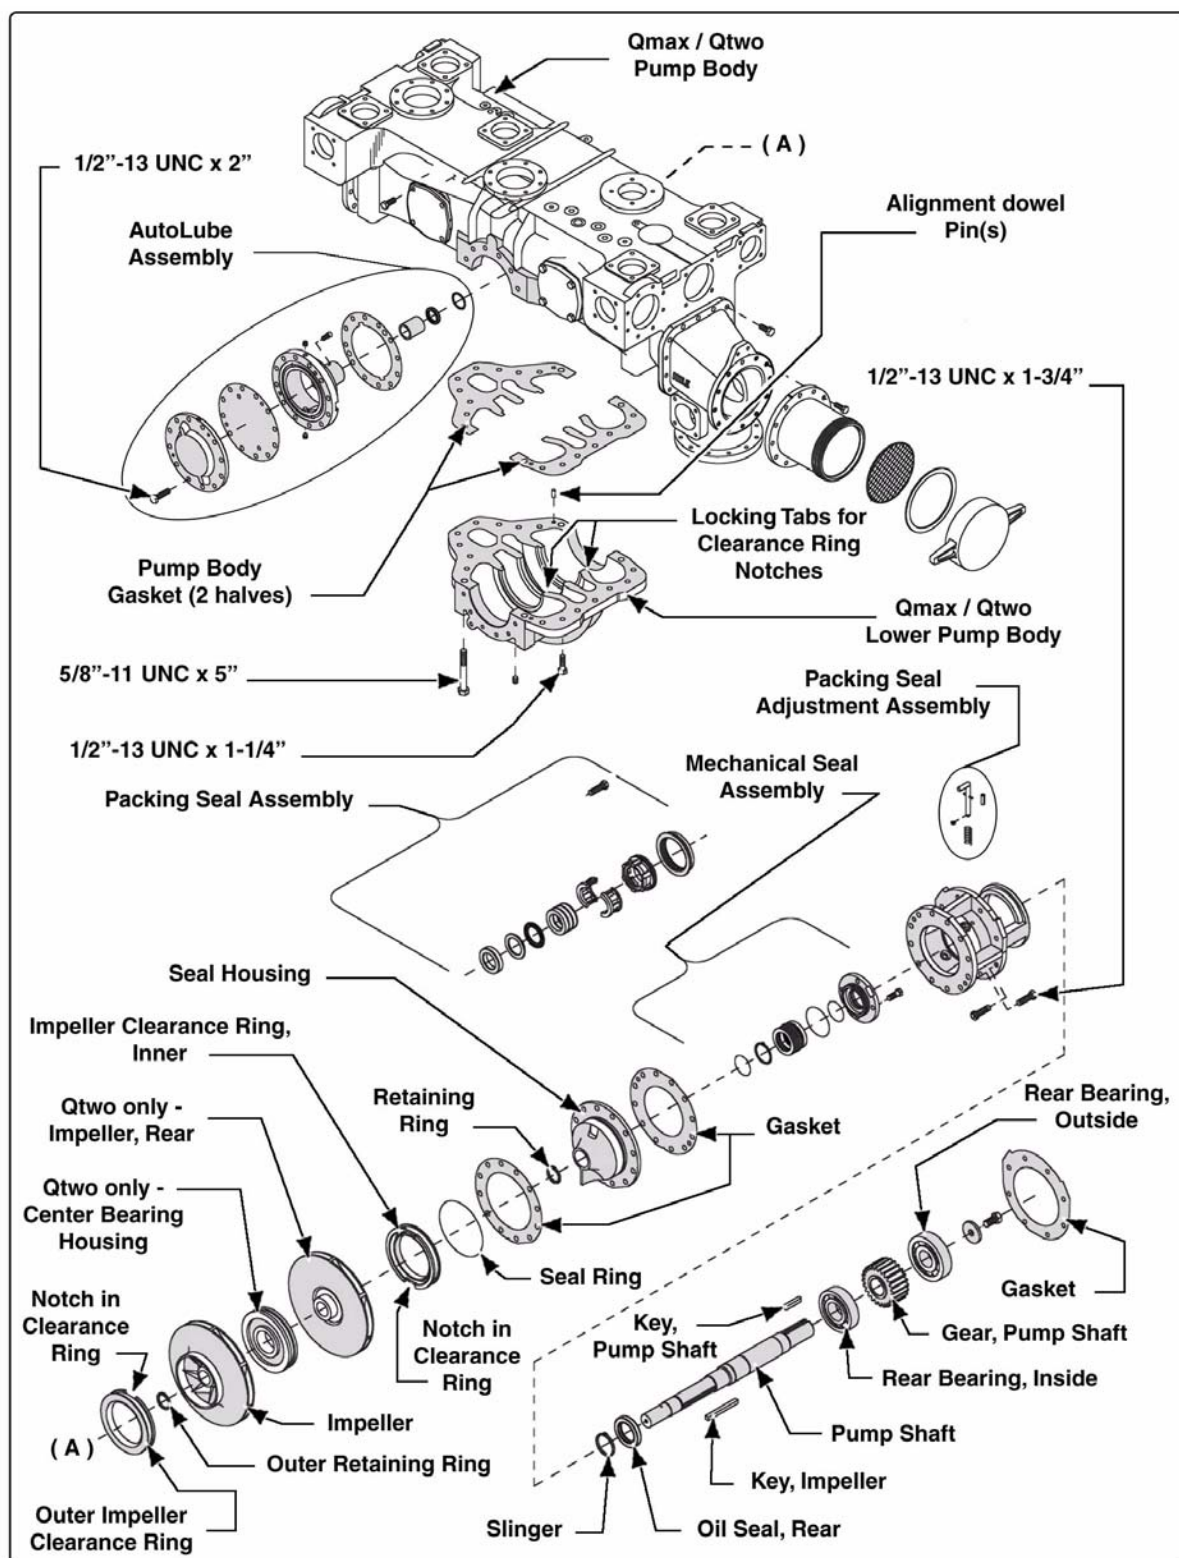

Figure 7-7: Qmax / Qtwo Assembly Overview
**THE LOWER PUMP BODY WEIGHS APPROXIMATELY 100 LBS (46 KGS). (SEE FIGURE 7-7: "QMAX / QTWO ASSEMBLY OVERVIEW," ON PAGE 120.) SUPPORT THE LOWER PUMP BODY AND IMPELLER ASSEMBLY WITH THE PROPER LIFTING DEVICE. FAILURE TO DO SO COULD RESULT IN THE LOWER PUMP BODY AND IMPELLER ASSEMBLY FALLING, WHICH COULD RESULT IN SERIOUS PERSONAL INJURY, OR PROPERTY DAMAGE.**
- ☐ 1/2"-13 UNC x 2" screws from the "top half" of the AutoLube bearing housing and the pump body. (See Figure 7-7: "Qmax / Qtwo Assembly Overview," on page 120.)
6. Position the lifting device to support the lower pump body, then remove the 5/8"-11 UNC x 5" screws in each of the four corners of the lower pump body. (See Figure 7-7: "Qmax / Qtwo Assembly Overview," on page 120.)
3. Remove the outer retaining ring and clearance ring. (See Figure 7-7: “Qmax / Qtwo Assembly Overview,” on page 120.)
Also see Figure 7-7: “Qmax / Qtwo Assembly Overview” on page 120.
4. Install a new gasket on the seal housing face. (See Figure 7-7: “Qmax / Qtwo Assembly Overview,” on page 120.)
6. Using proper lifting device, slowly raise the lower pump body and the impeller assembly into place. Align the lower pump body aligns with the dowel pins and the clearance ring notches with the clearance ring lock tabs in upper pump body. (See Figure 7-7: “Qmax / Qtwo Assembly Overview,” on page 120.)